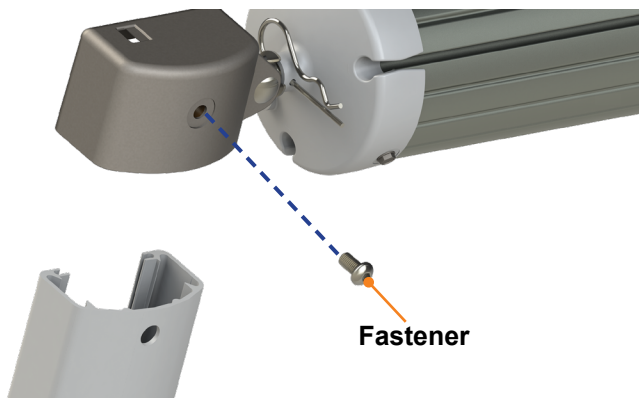

Fig.14
6. Remove the drive head assembly and idler head assembly retaining fasteners from the outer arms to separate the components (**Fig. 14**).